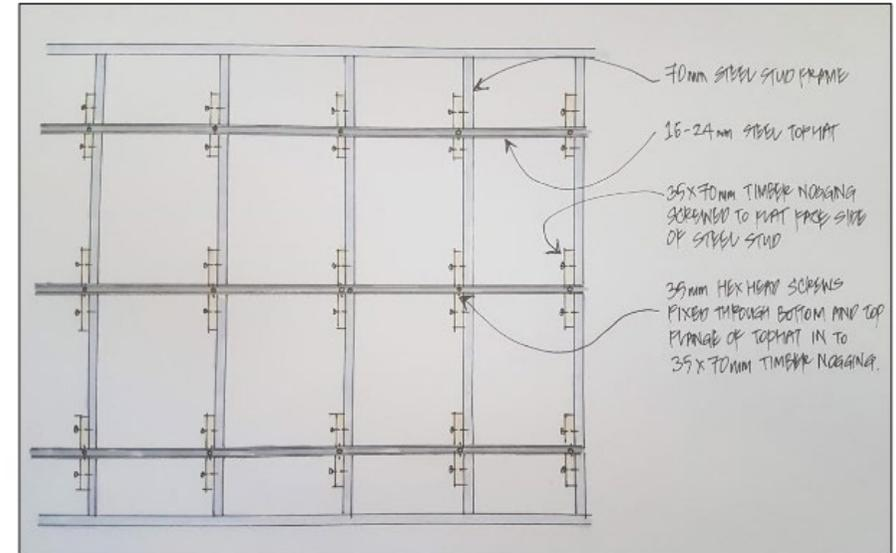

Figure 4–Proposed construction detail for the overhanging Hebel Intertency system affixed to a steel frame using timber nogginns and top hats
- In addition to the above requirements, where a steel frame is utilised, the proposed steel top hats supporting the CSR Hebel® PowerPanel⁵⁰ must only be fixed to the steel frame via multiple 35 mm x 70mm timber noggins. A sketch detailing this construction has been developed by CSR Hebel® and is reproduced in Figure 4 for reference.